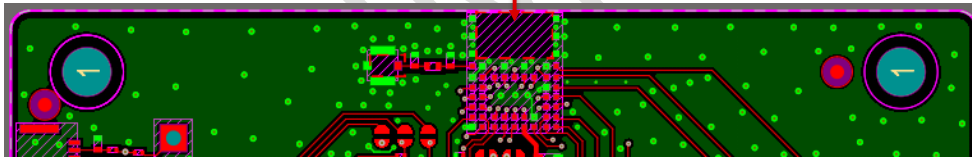

Figure 6: Chip Antenna keep-out area (shown in red) of the BL54L15 μ development board for the 453-00223 module.
- The BL54L15 μ development board (453-00223-K1) has the 453-00223 module on the edge of the board (not in the corner). The antenna keep-out area is defined by the BL54L15 μ development board which was used for module development and antenna performance evaluation is shown in **Figure 6**, where the antenna keep-out area is 3mm wide, 5mm long; with PCB dielectric (no copper) height \sim 1.75mm sitting under the 453-00223 chip antenna module.
- Host PCB land pattern and antenna keep-out for the BL54L15 μ applies when the 453-00223 is placed in the edge of the host PCB preferably in the edge center. **Figure 6** shows an example.